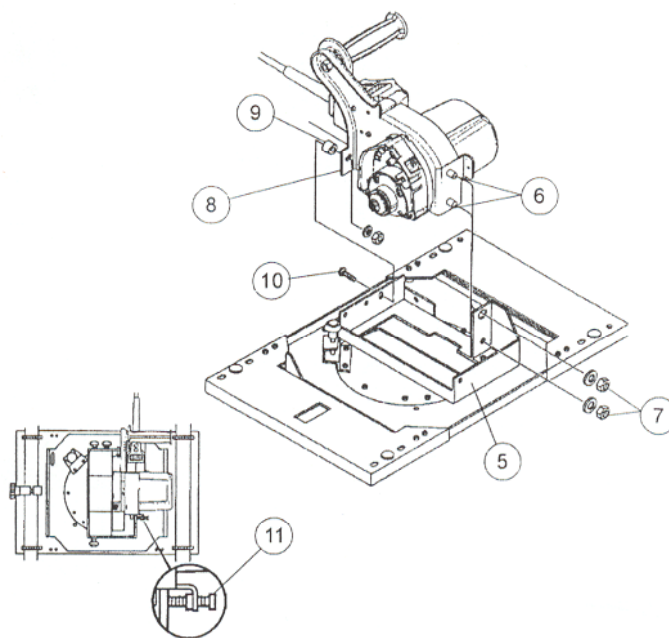

Figure 5: Mounting the Saw Motor (Models C-4, H-4, H-5, H-6,)
2. Mount the motor to the carriage by inserting the studs (6) on the saw motor through the holes in the turntable (5). See Figure 5. Install the washers and nuts (7), and hand-tighten only.
3. The bracket (8) that extends from the saw handle has a single hole. Place the spacer (9) between the bracket on the base and the bracket on the saw handle. Align that hole with the hole in the turntable as shown in Figure 5, and insert the bolt (10). Install the nut, and hand-tighten only.
4. Make sure the screw (11) on the saw motor plate is flush against the turntable bracket as shown, to ensure the saw is square. This screw (11) is factory-set and does not require adjustment when the tool is being installed.
5. Tighten the **two bottom nuts first (7)**, and the top nut (10) last.